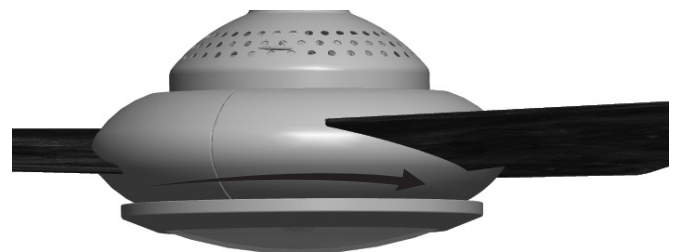

FIGURE 3.
**Step 4.** Rotate the shade in a clockwise direction until it is held tightly in place by the four tabs. Figure 3.